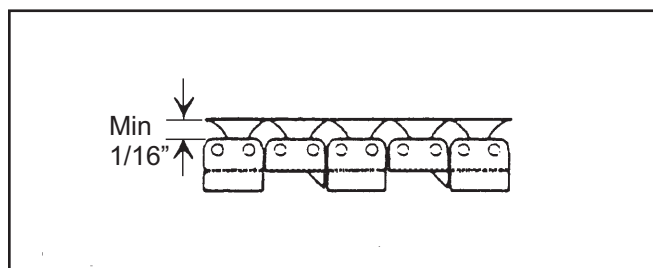

Figure 2. Maximum Chain Clearance
2. Make sure the chain does not exceed a clearance of 1/4 in./6 mm from the bar (see Figure 2). Exceeding the maximum clearance increases the chance of the chain being dislodged from the bar groove.